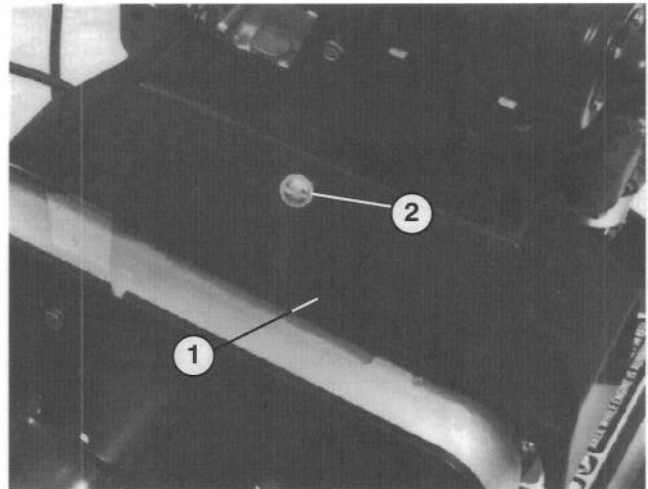

Figure 35
2. Loosen retainer securing v-belt cover and pivot cover open (Fig. 35).